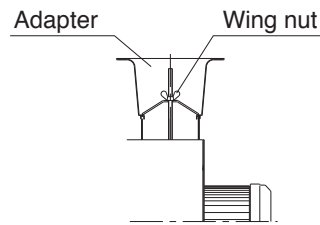

Fig.8
- c Screw the wing nut onto the stud bolt from above to secure the adapter (see Fig.8).